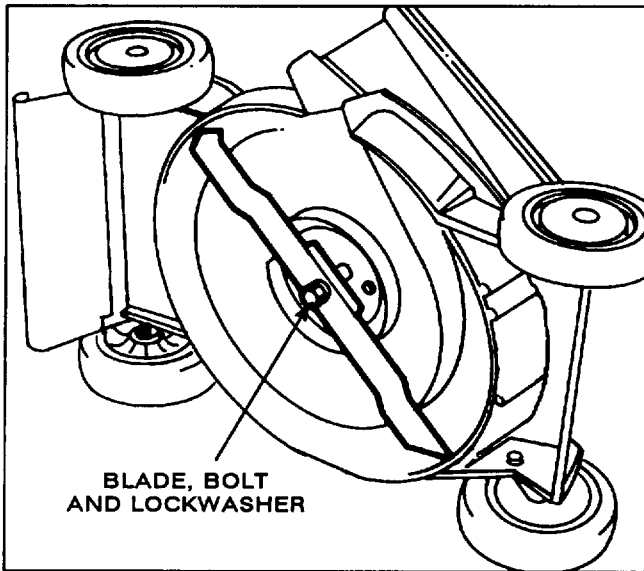

Figure 16
3. Tip mower on its left side (Fig. 16).
5. **REMOVING BLADE**—Grasp end of blade using a rag or thickly padded glove. Remove blade bolt, lockwasher, and blade (Fig. 16).